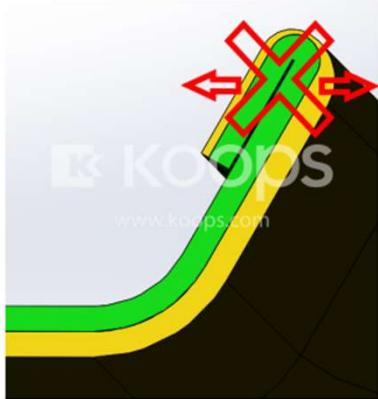

Figure 4 – Representation of Edge Folded Headliner Windage.
- The edge folding process only affects the heated portion of the headliner, 'windage' is not something that can be controlled by edge folding. The 'Z Height' is the only dimension that can be adjusted by edge folding (See Figures 4 and 5 below).